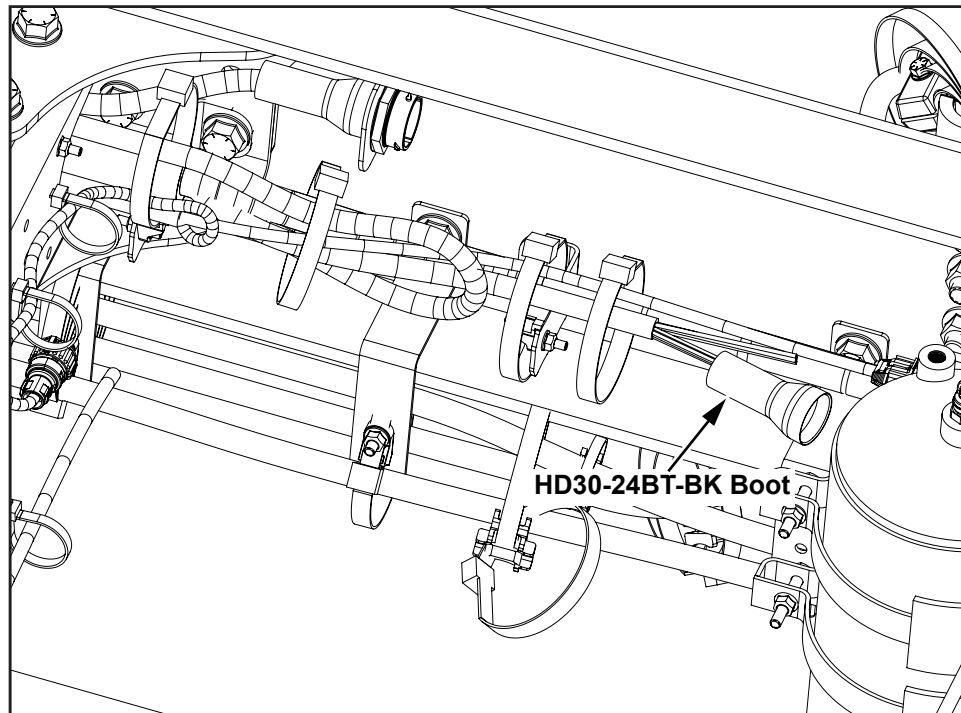

Figure 5
- Slide the HD30-24BT-BK boot provided with the harness over Group 1 (see Figure 5).